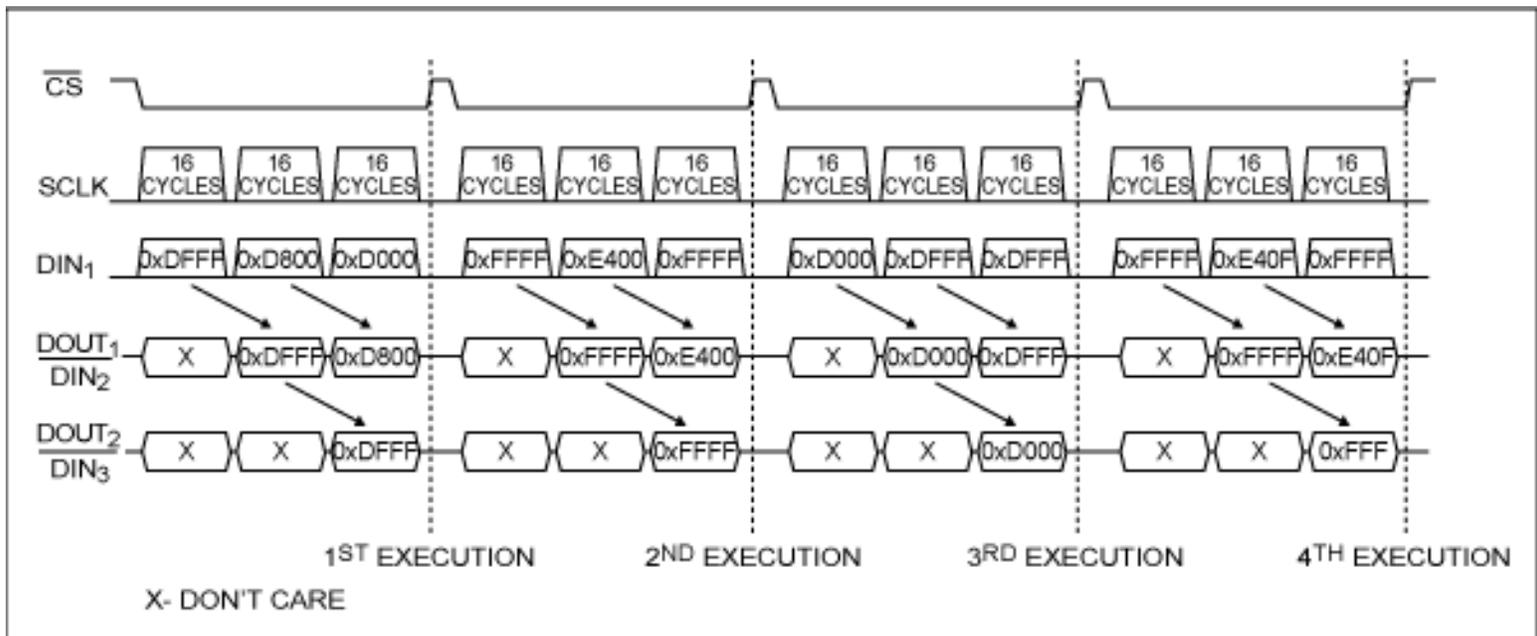

Figure 7. Circuit #2 example command sequence.
**Figure 7** provides a command sequence example and the following commands are used (See the MAX5290 data sheet for more information.):